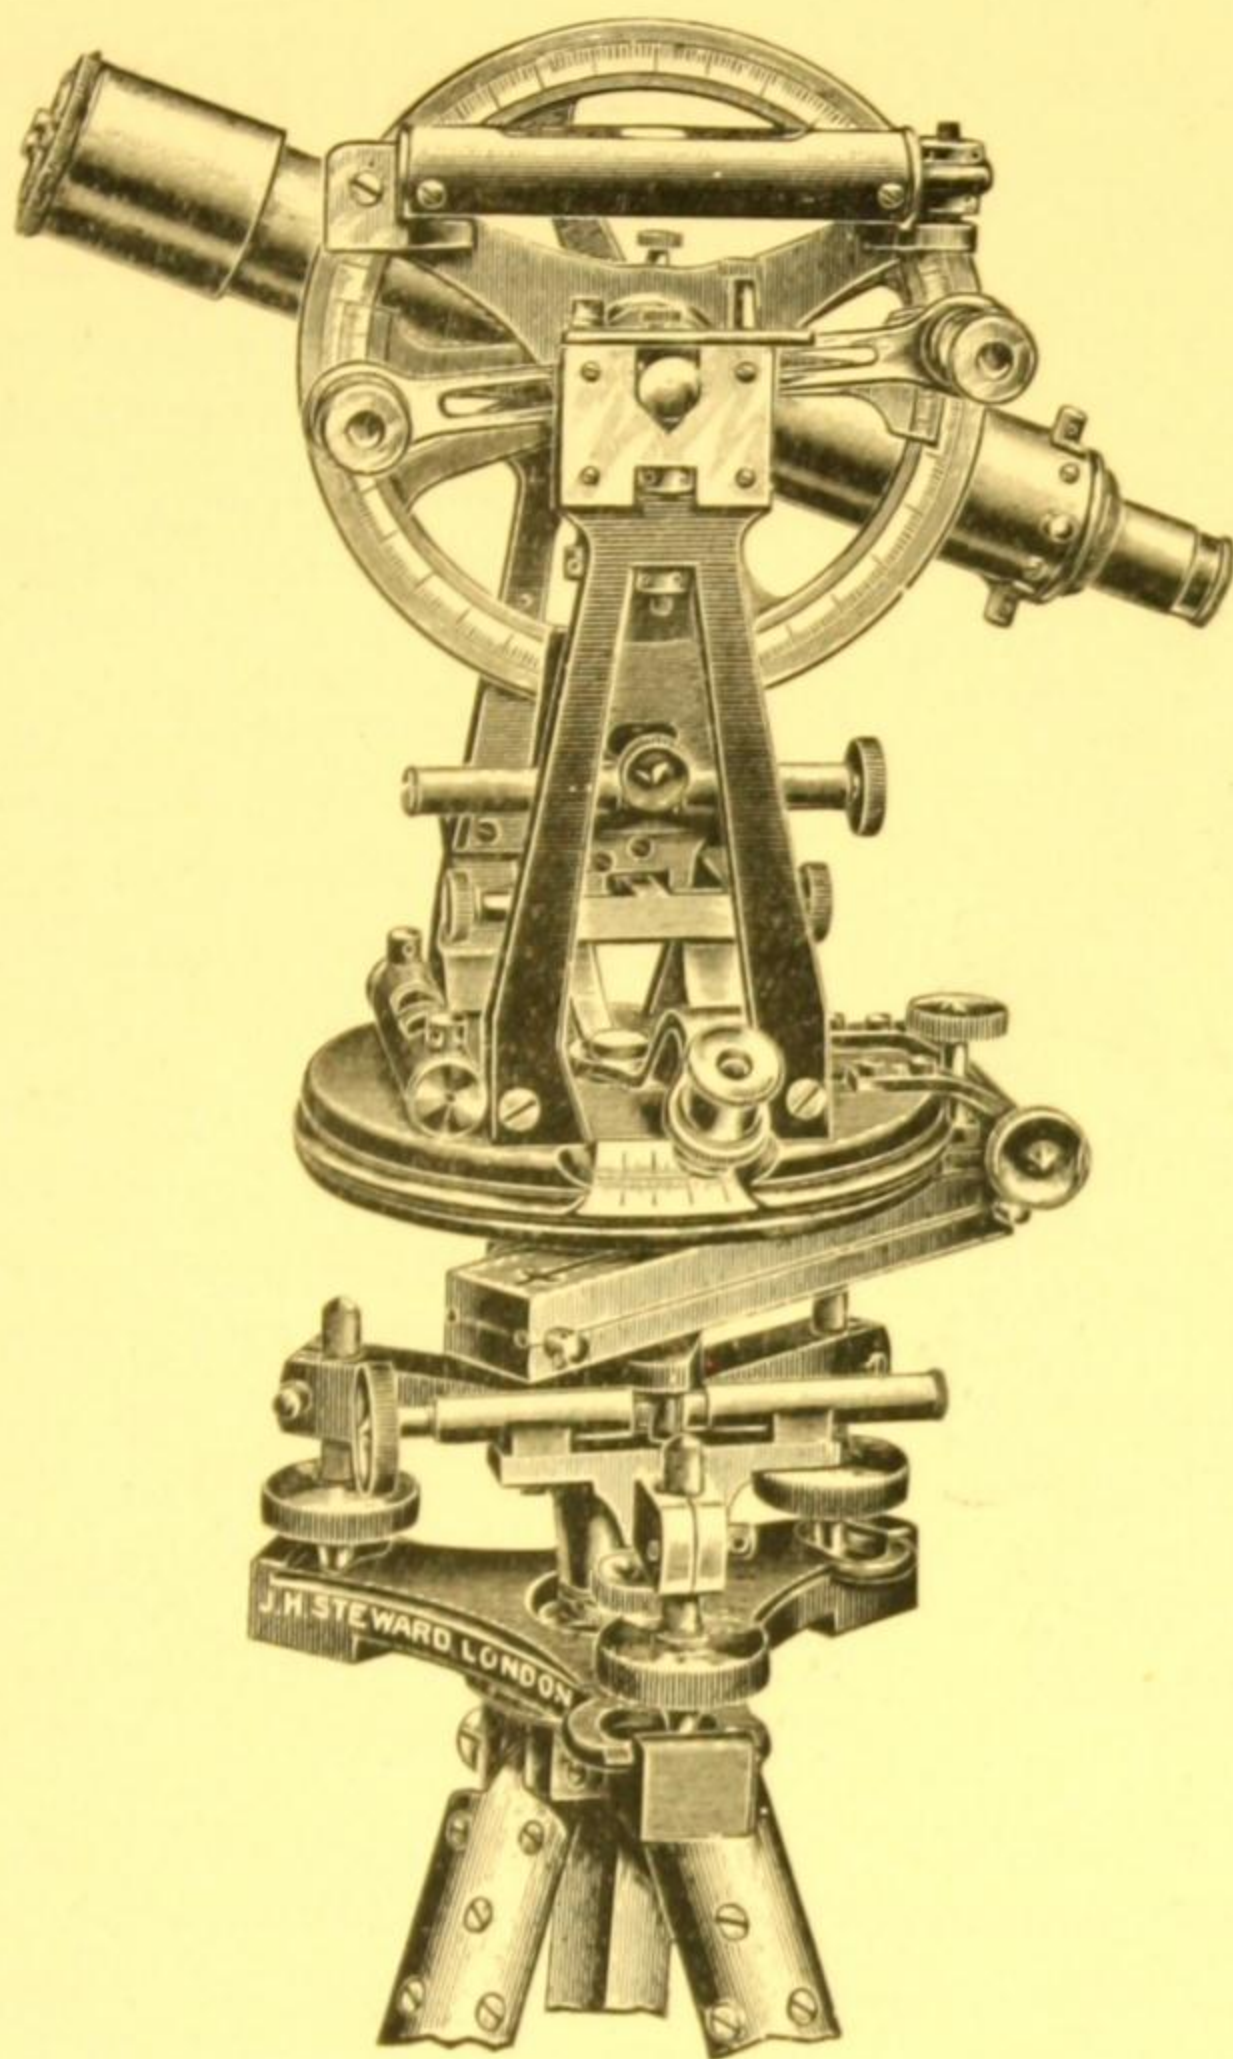

Fig. 4. £45 0 0
**Mahogany Case and Tripod** with solid legs. .... Fig. 4 £45 0 0